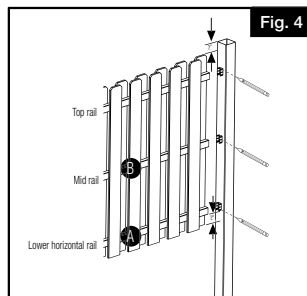

Fig. 4
Measure the distance from the bottom of the panel to the bottom of the lower horizontal rail (A) and add 2 inches. This is the location of the bottom bracket. Measure from the bottom of the lower horizontal rail to the bottom of the mid rail (B). This is the location of the mid bracket. Use the same process to place the top bracket in the correct location (Fig. 4 & 5).